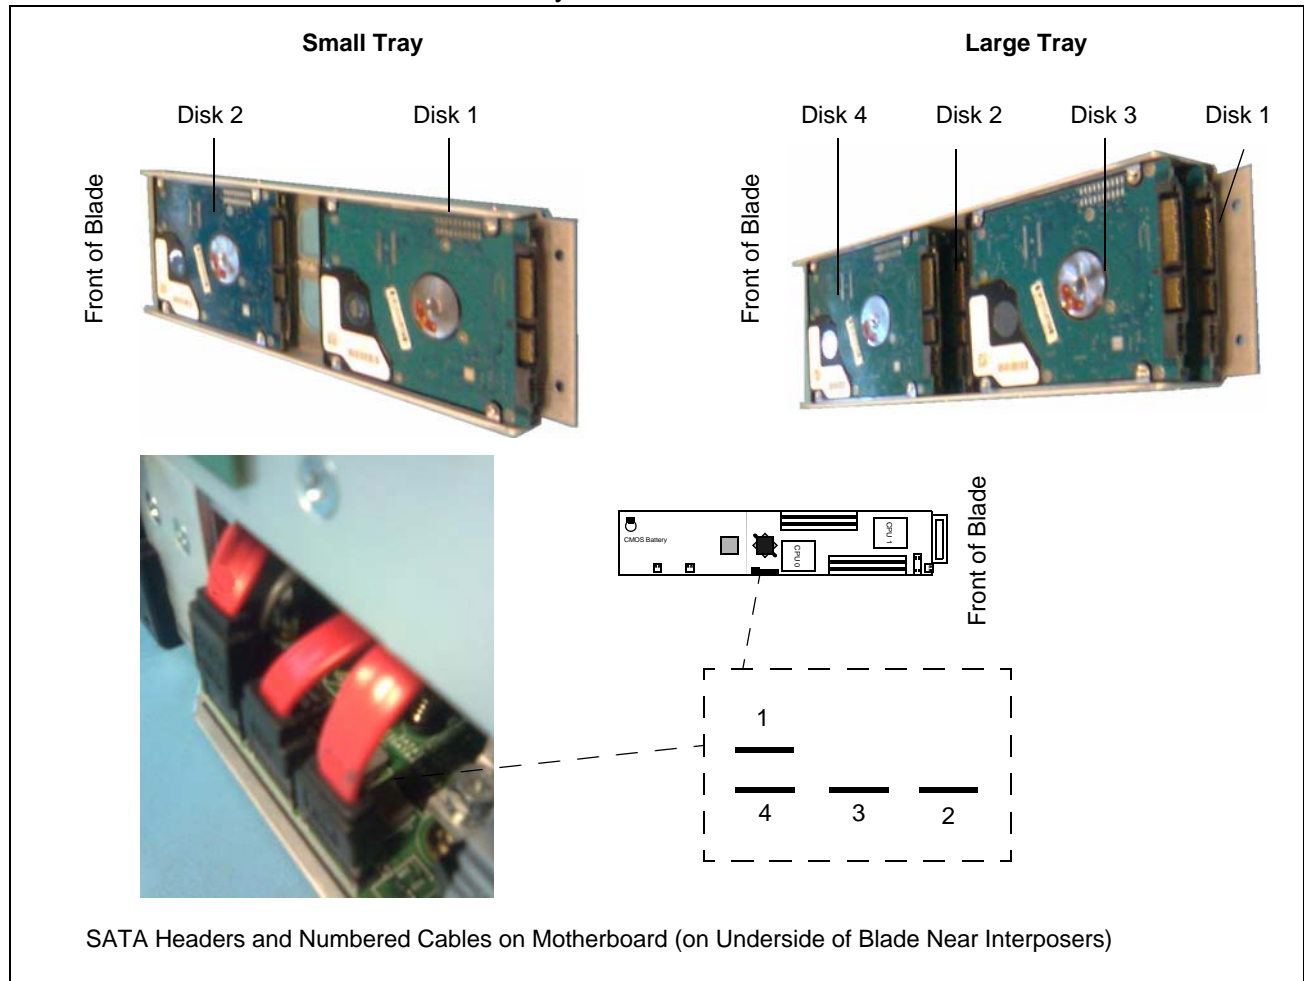

Figure 45 R3040S Hard Disk Drive Trays, Cables, and Cable Headers
NOTE: Before disconnecting any SATA cables, note their position so you can easily reconnect each cable to the correct hard disk. Figure 45 on page 85 shows hard disk cables and header numbering.
Ensure that you reconnect data cables correctly. Figure 45 on page 85 shows the correct placement of hard disks in the tray, and shows how SATA headers on the motherboard are mapped to each hard disk number.
12. Ensure that all SATA cables are completely connected to the SATA headers on the motherboard (as shown in Figure 45 on page 85).
NOTE Before disconnecting any SATA cables, mark them so you can easily reconnect each cable to the correct hard disk. Figure 45 on page 85 shows hard disk numbering.